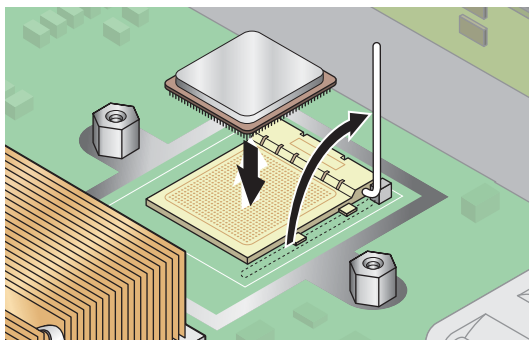

FIGURE 5-32 Installing a CPU in its Socket
2. Ensure that the socket release lever is in the fully open, perpendicular position (see FIGURE 5-32).